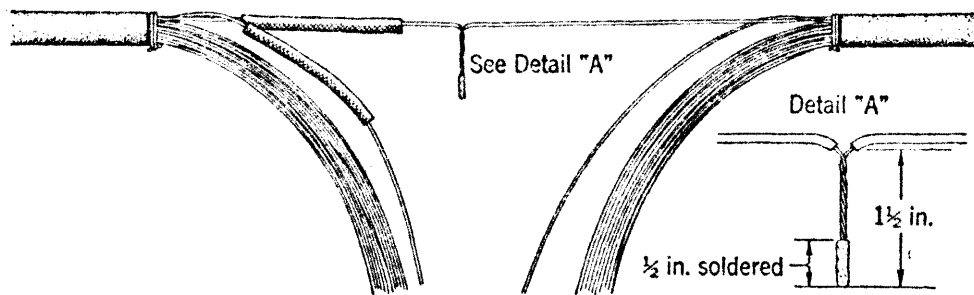

Fig. 4.
3.12 Remove insulation by crushing with long nose pliers at the point where it is to be broken. Pressure must be applied to the pliers only until a snap is heard or distinct give is felt in order to avoid damaging the wire. Pull insulation back over wire for a distance of about three inches. Twist wires together and cut off excess so that completed joint is 1-1/2 inches long. (If wires have an enamel coating, take care to thoroughly remove the enamel by grasping the wire between end of long nose plier jaws and scraping it with long smooth strokes before twisting wires together.) Cut end of wire clean to avoid puncturing cotton sleeves where splice is taped down. Solder about 1/2 inch of end of wire with rosin core solder to prevent corrosion of joints as shown in Fig. 4.